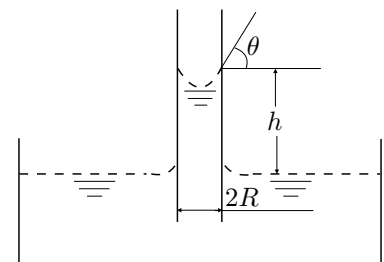

Figure 1: Capillary Rise
4. Derive an expression for the change in height h in a circular tube of radius R containing a liquid with surface tension γ and contact angle θ as shown in Figure 1. Assume the liquid has constant density ρ and it is acted on by the acceleration due to gravity g .
5. Figure 1 shows a fluid flowing between two plates. The bottom plate is fixed while the top one moves with a constant velocity V m/s. Assume pressure does not vary along the X -axis, the flow is not accelerating, the fluid is newtonian and the shear stress is constant throughout. Obtain a mathematical expression for velocity u as a function of y , i. e., obtain $u(y)$.